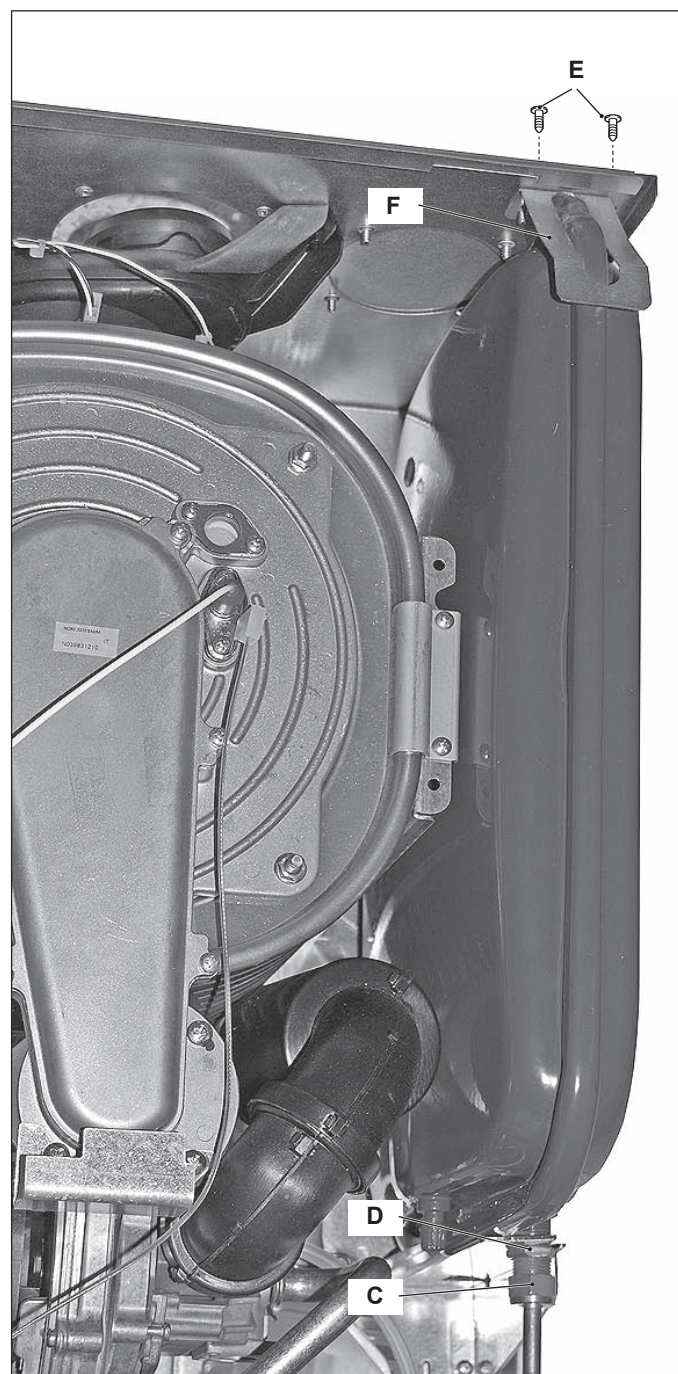

Figure 13.3
- 2 Completely unscrew the connection C, the locknut D (Figure 13.3).
- 3 Unscrew the screws E and remove the bracket F (Figure 13.3).